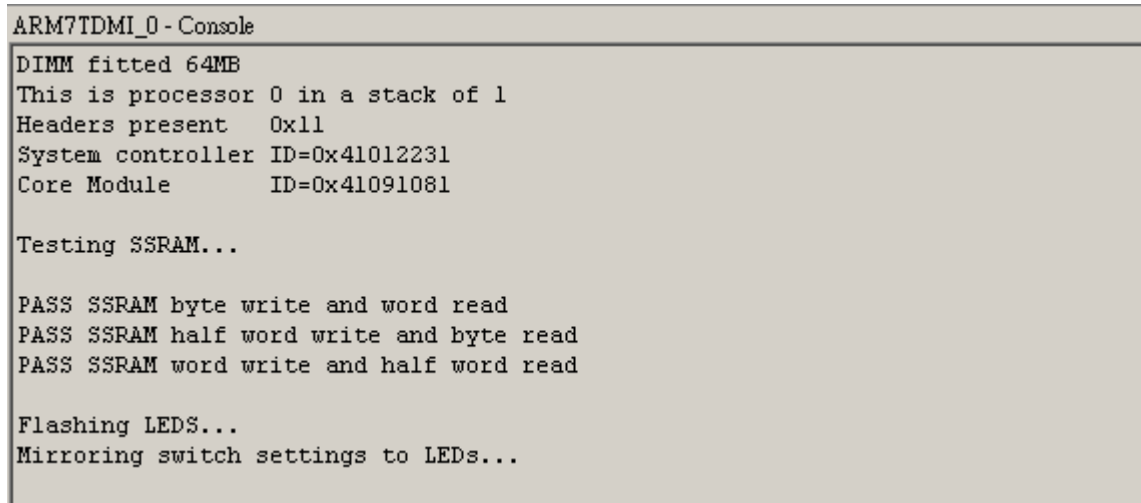

Figure 32 Correct results running the example with hardware.
11. Observe the result on the Console window and AP board. If the example is running correctly, the AXD Console window will show the hardware information and the LM's SSRAM test results as shown in Figure 32. After the tests are done, the LEDs on LM would be flashed for several seconds, and then the LEDs will be mapped to the 8-way switch value.